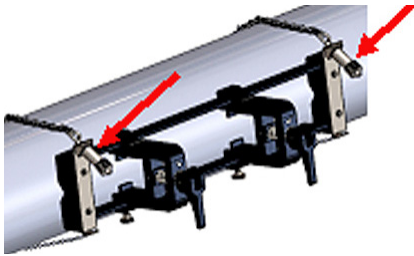

Figure 16: Secure the fixture to the pipe
- After final alignment is complete, fully tighten both chains by turning the nut on top of both chain screw mechanisms (see *Figure 16* below) until the chain is tight enough to resist any fixture movement.